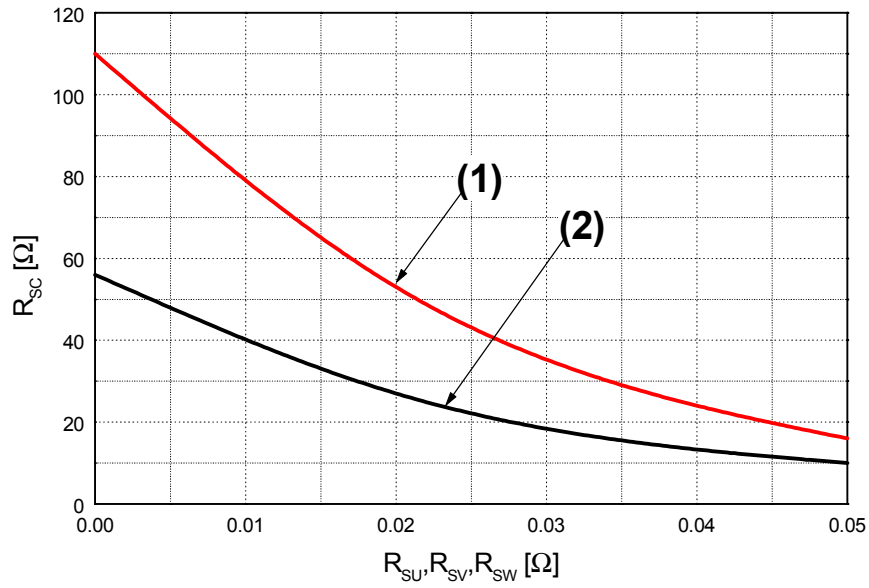

Fig. 6. R_{sc} Variation by change of Shunt Resistors (R_{SU} , R_{SV} , R_{SW}) for Short-Circuit Protection
- Short-circuit current protection is functioning only at the low-sides. It would be recommended that the value of the external sensing resistor (R_{SC}) should be selected around 56 Ω in order to make the SC trip-level of about 45A at the shunt resistors (R_{SU}, R_{SV}, R_{SW}) of 0Ω. For the detailed information about the relationship between the external sensing resistor (R_{SC}) and the shunt resistors (R_{SU}, R_{SV}, R_{SW}), please see Fig. 6.